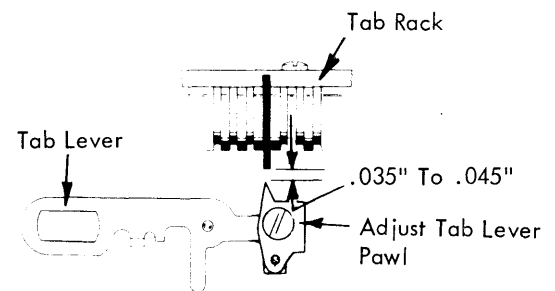

FIGURE 163. Tab Lever Pawl
2. Tab Lever Pawl - Adjust the pawl forward or back on the tab lever so that the tip of the pawl clears a SET tab stop by .035" to .045" with the tab lever at rest (Fig. 163).